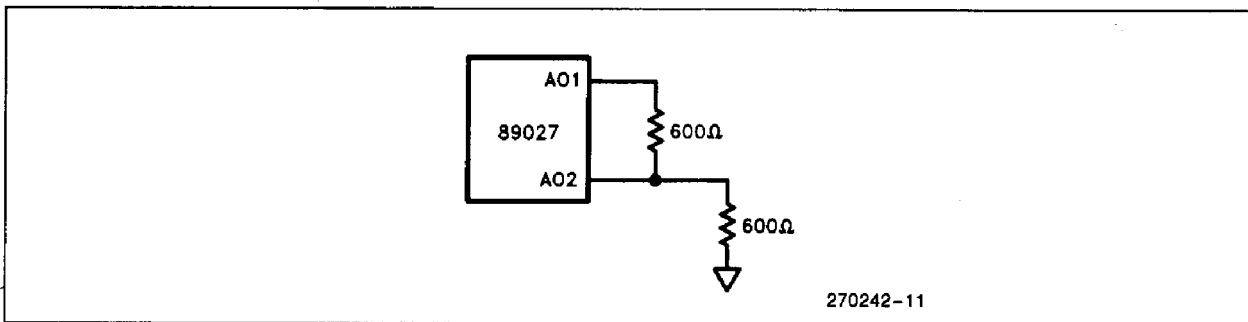

Figure 9. Transmitter Test Setup
1. For FSK, PSK, QAM xmit signal. HYB is enabled into a 600Ω network and measured at A02. Refer to Figure 9 for test setup.